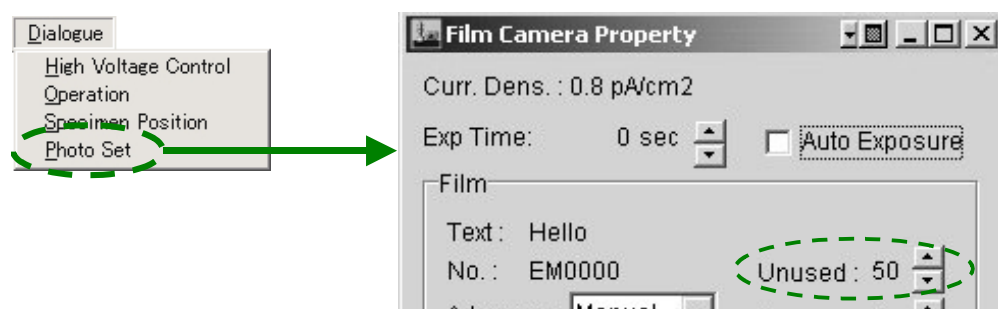

Fig. 5.4 Entering the number of unused films
8. Input the number of unused films (the number of films loaded in the dispensing magazine) in the **Film Camera Property** window (see Fig. 5.4 in Sect. 4.3.5b).